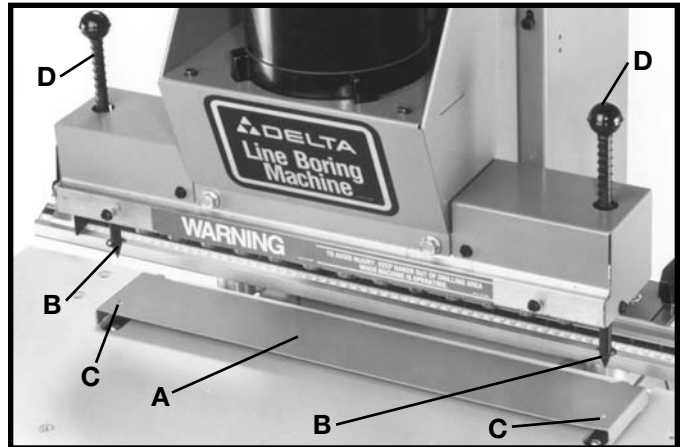

Fig. 16
1. Set the right fence stop to 9 inches on the fence scale and the left fence stop should be moved out beyond the 9 inch mark. Position gage (A) Fig. 16, on table as shown, with points of both indexing pins (B) over holes (C) in gage.
2. Unscrew and remove knobs (D) Fig. 16, from top of indexing pins.